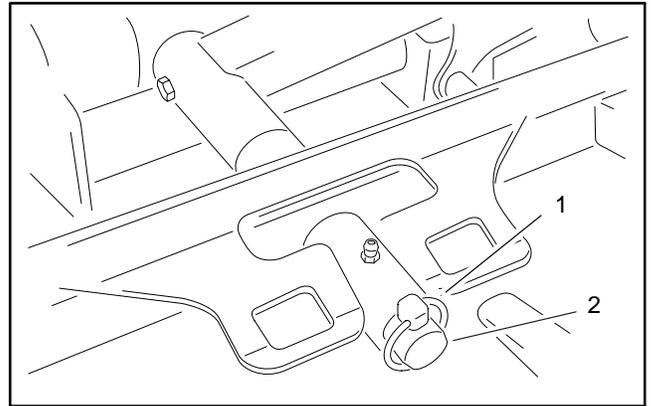

Figure 21
3. Remove the lynch pin securing the deck carrier frame to the lift arm pin (Fig. 21).
3. Slide deck carrier frame onto lift arm pivot pin. Secure with lynch pin (Fig. 21).